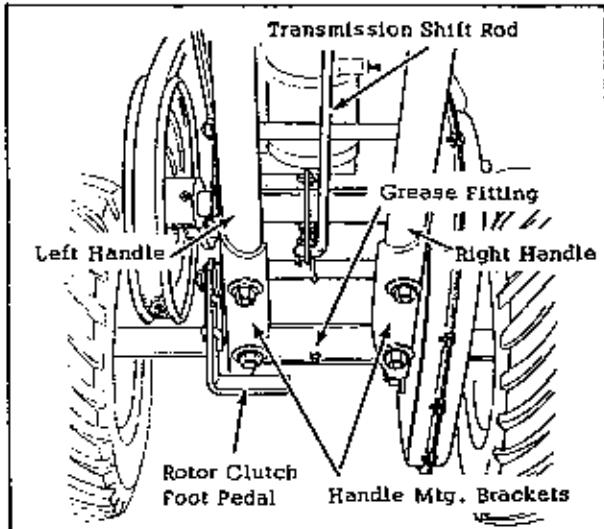

Fig. 1
- Fasten the right and left handles to the mounting brackets as shown in Figure 1. Use hex cap-screws, flatwashers, lockwashers, and hex nuts and tighten securely in place.
The 23" Rotary Snow Plow is equipped with 4 grease fittings that require occasional lubrication with a general purpose automotive grease. The location of these fittings is shown in Figures 1, 3, & 7. The 26" Sno Away has an additional fitting on the 2-Speed axle cover.